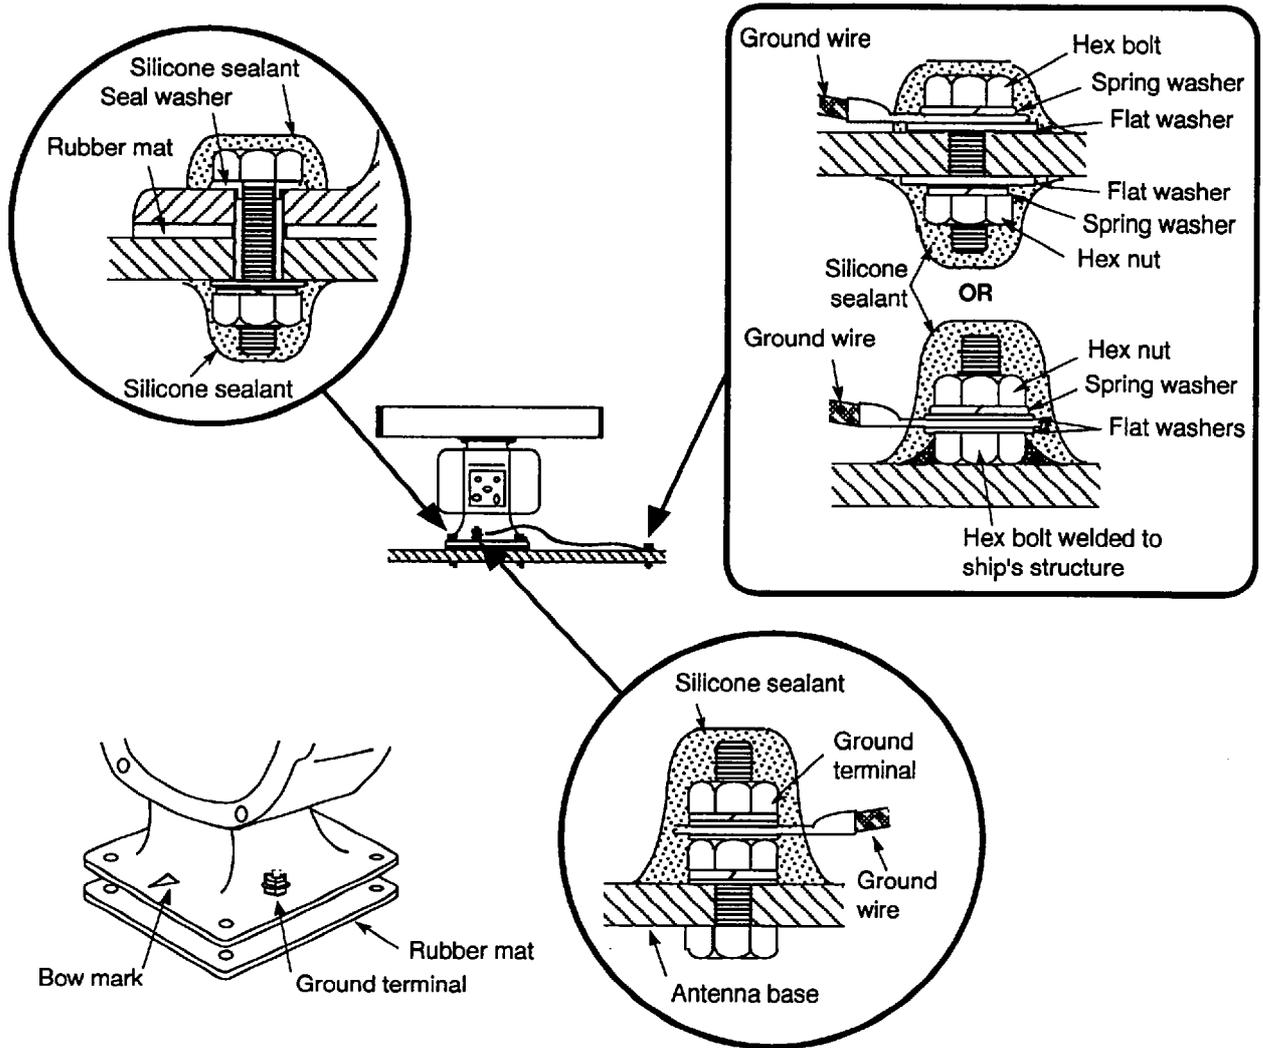

Fig. 1-6 Fastening the antenna unit to the mounting location
- 5) Establish the ground on the mounting platform as shown in Figure 1-6. The location must be within 300mm of the ground terminal on the antenna unit. Use hex bolt (M6 x 25), M6 nut and M6 flat washer.
- 7) Coat the ground point and the ground terminal with silicone sealant (supplied) as shown in Figure 1-6 to prevent corrosion.